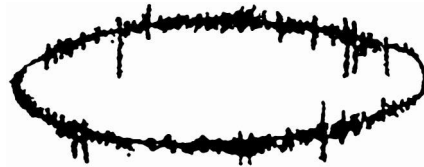

Fig. 23
h) Relay, contactor, glow tube and other actions (Fig. 23), waveform characteristics: irregular or intermittent waveform,